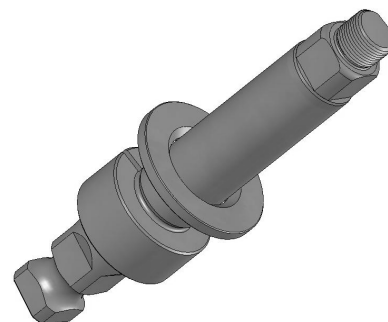

FIGURE 5
- 2) Install the kicker shaft washer onto the kicker shaft with the inside of the washer chamfer facing toward the threaded end of the shaft. (Figure 5)